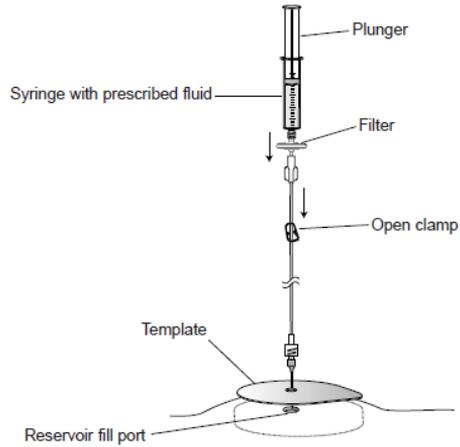

Figure 5. Open the clamp and inject into the pump reservoir.
6. Attach the syringe with the prescribed fluid and filter to the extension set (Figure 5).
9. Slowly depress the plunger on the syringe to inject the prescribed fluid into the pump reservoir. While injecting the prescribed fluid, verify that the needle remains properly located within the reservoir (Figure 5).
- Purge the air from the second syringe, and attach the second syringe to the filter (Figure 5).